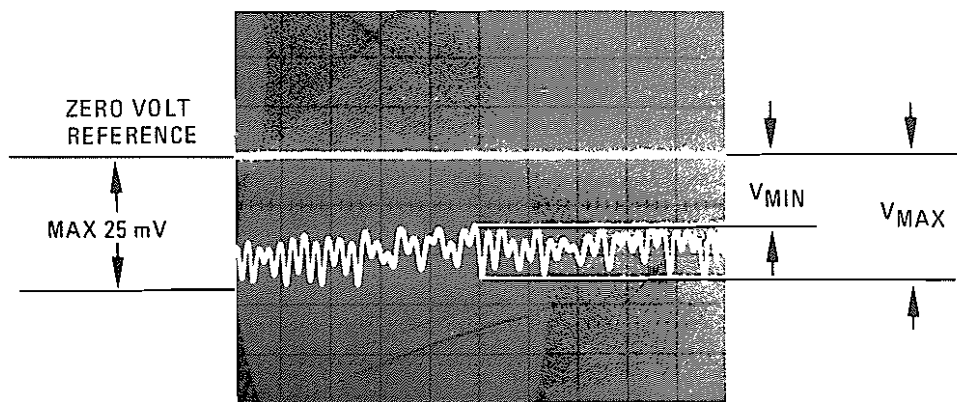

Figure 4-14. Typical Pattern of a Swept SWR Measurement.
- d. Note maximum amplitude on oscilloscope. If greater than -25 mV, adjust POWER LEVEL control counterclockwise for -25 mV maximum peak trace to place crystal detector in square-law output range. (Display should be similar to that shown in Figure 4-14.)